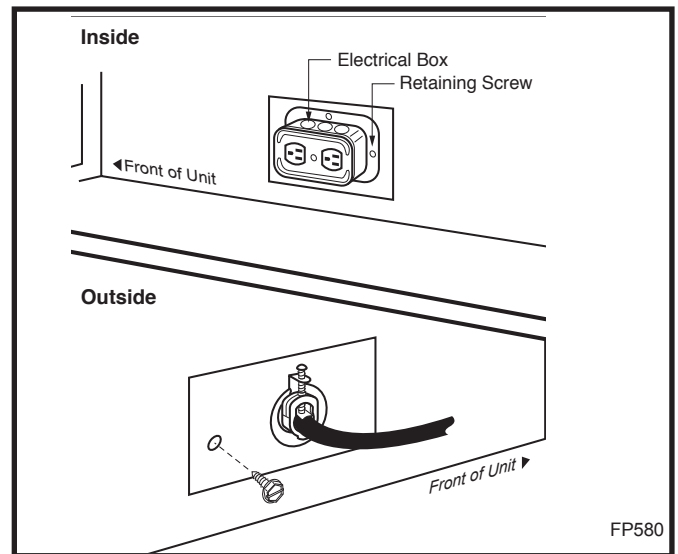

Fig. 12 Junction box (EB-1) hook-up.
1. Remove 2" knockout. Slide the electrical box back plate into the back and bottom lances (clips) while fitting the box connector into the knockout. Fasten into place with fastening screws provided. (Fig. 12)